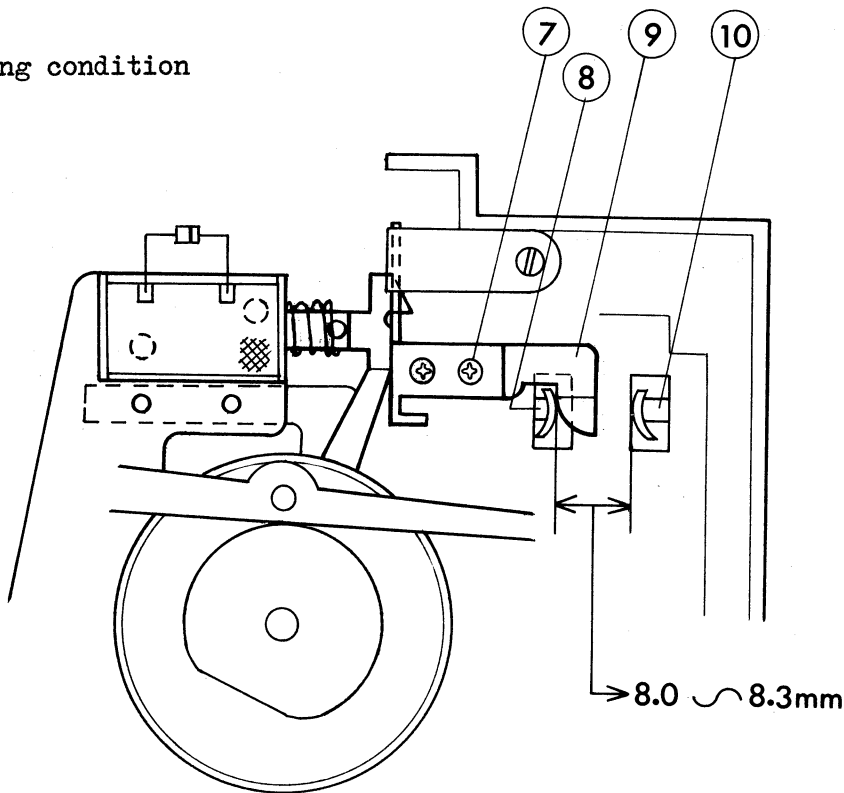

Fig 17
A. Disassembly Refer to Fig.17.
1. Remove (1)x2 and take off (5).
2. Remove (2)x2 and take off (4).
- Defective (3); Click noise developes when auto-thread is released.
- Defective operation of (4); Unable to release the auto-threading
- Defective (5); Unable to lock the auto-threading
- Incorrect position of (4)(5); Unable to lock the auto-threading or
1. When a loop former is depressed, the (6) of Fig.17 moves in the direction of arrow.
2. During auto-threading, the (8) is depressed by (9). In this case, the clearance between (8) & (9) should be 8.0 - 8.3mm as shown in Fig.17. For this adjustment, use (7)x2.